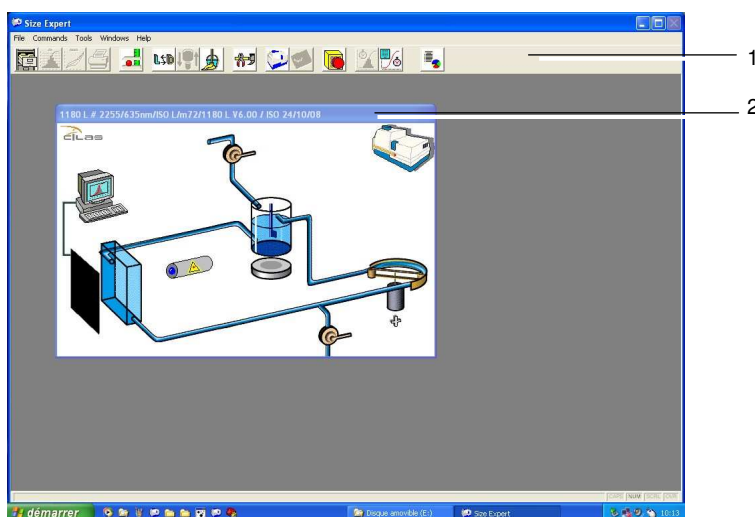

Figure 107: the mimic panel displays maintenance mode
A further *<Ins> + <F12>* key sequence when the application window has the focus (click in ref. 1, Figure 107) exits maintenance mode. The words *Maintenance mode* are removed from the title bar of the mimic panel.